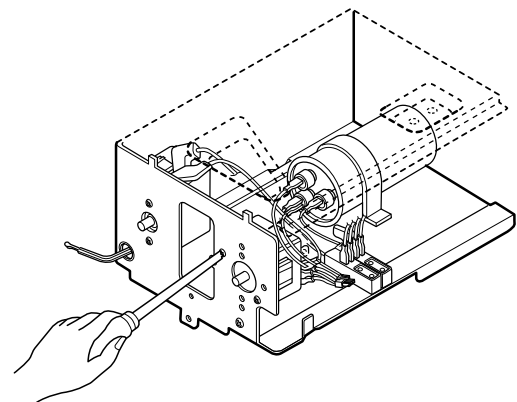

Figure 14
6. Re-install the components by referring to the above removal procedure. (See Figure 14)